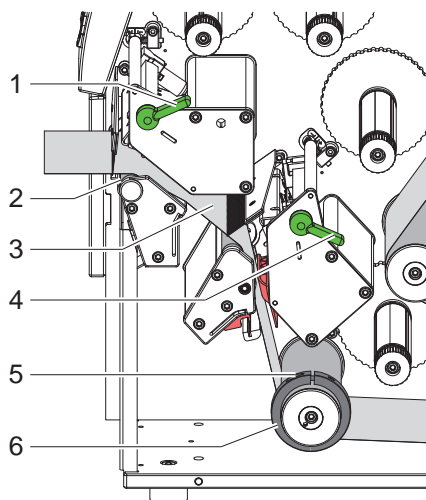

Fig. 9 Loading labels
3. Loosen the threaded pin (5) and slide the guide ring (6) to the outermost position.
4. Guide media strip through the print mechanics as shown in figure 9 to the upper print roller (2).
5. Slide the guide ring (6) against the edge of the label strip (3) and tighten the threaded pin (5).